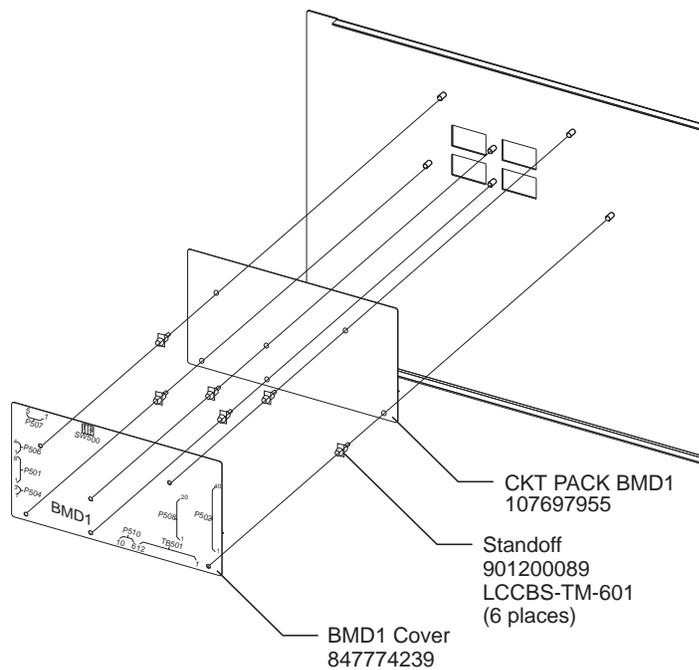

Figure 5-11: Door Assembly
11. Mount the BMD1 LVD/Fuse Board to the distribution door assembly as shown in Figure 5-11. Reconnect the following connectors in the order listed below: